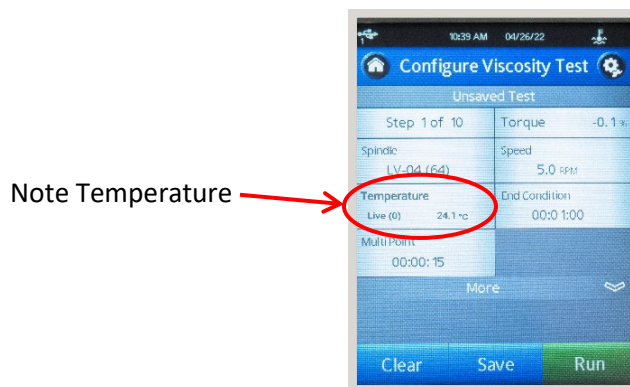

Figure 54: Configure Viscosity Test Screen
2. On the Head Unit, take note of the temperature reading; it will be used in later steps. See Figure 54.